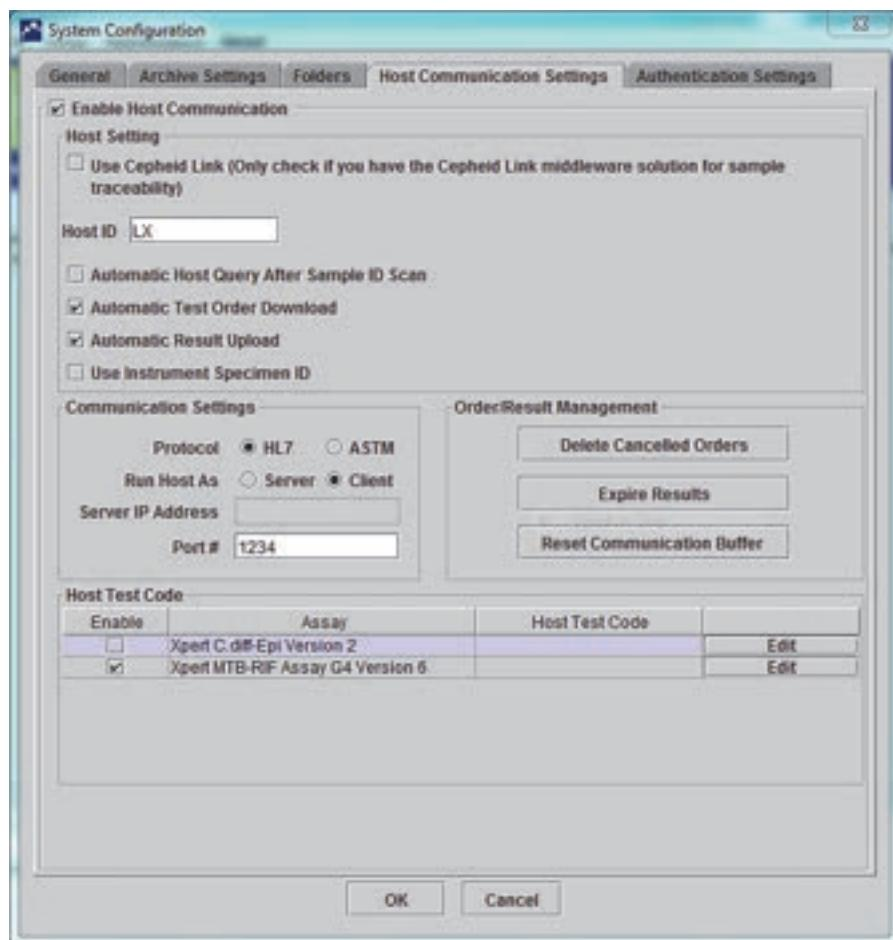
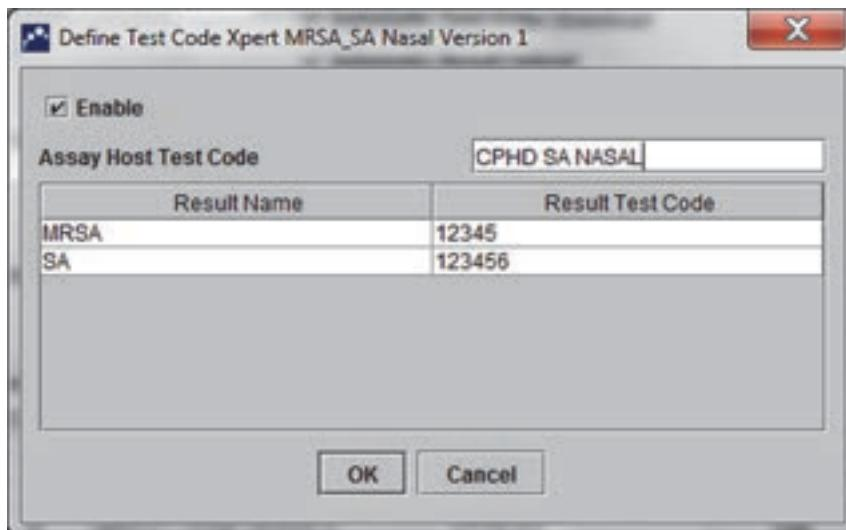

Figure 2-81. System Configuration Dialog Box (Host Communication Settings Tab)
Figure 2-84. Define Test Code Dialog Box for a Multi-Result Assay
2. Click the **Host Communication Settings** tab. The **Host Communication Settings** tab appears. See Figure 2-81.
2. Select the **HOST COMMUNICATIONS SETTINGS** button (see Figure 2-56) to display the Host Communications Settings workspace. See Figure 2-81.
1. In the **Host Test Code** table section of the Host Communication Settings tab (see Figure 2-81), click the desired **Edit** button to change the setting. The Define Test Code dialog box appears. See Figure 2-84.
4. The result names reported by the assay are listed in the **Result Name** field. See Figure 2-84.
5. Type in the result test code in the **Result Test Code** field (see Figure 2-84) corresponding to each result name that can be reported by this assay.